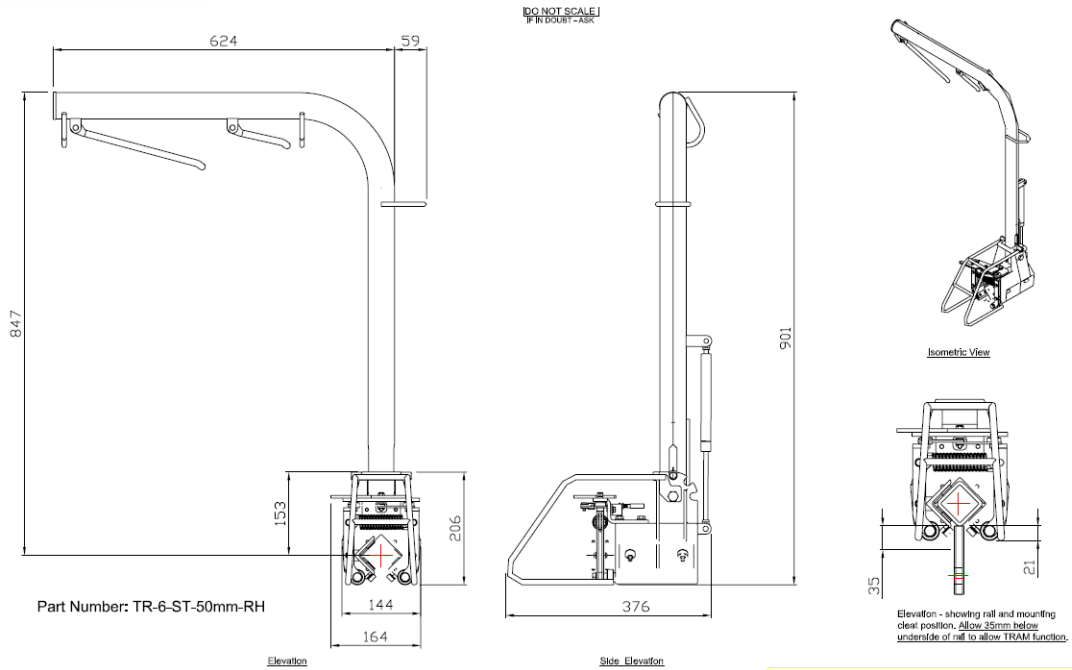

Figure 1: - Clearances required for TRAM Safety System installation
5. **Position the Mounting Brackets on the mounting surface. Ensure the bolting surface is vertical. Ensure the TRAM Arm lay down position will be correct – see Figure 1 for reference. Tack weld the mounting plates in place.**